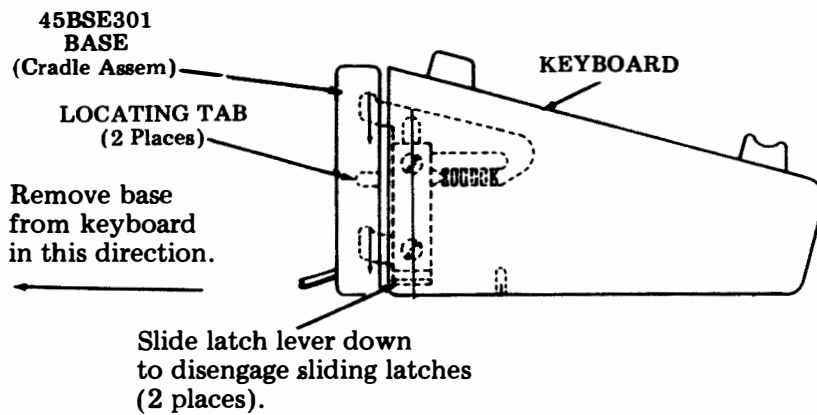

Fig. 2
- Pull down on the two latch levers to disengage sliding latches. Remove base from keyboard. See Fig. 2.